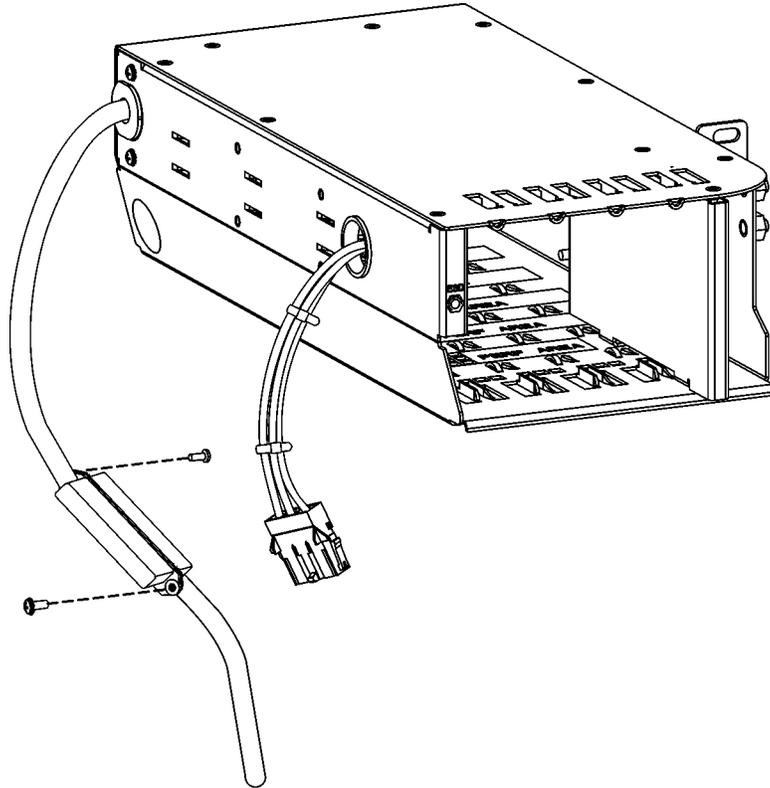

Figure 6-4: Locate the input (P700) and output (J100) pigtails
1.	<p data-bbox="602 472 1243 499">Run and connect the framework ground lead as shown.</p>  <p data-bbox="800 976 1247 1003">Figure 6-4: Grounding BDFB Shelves</p>